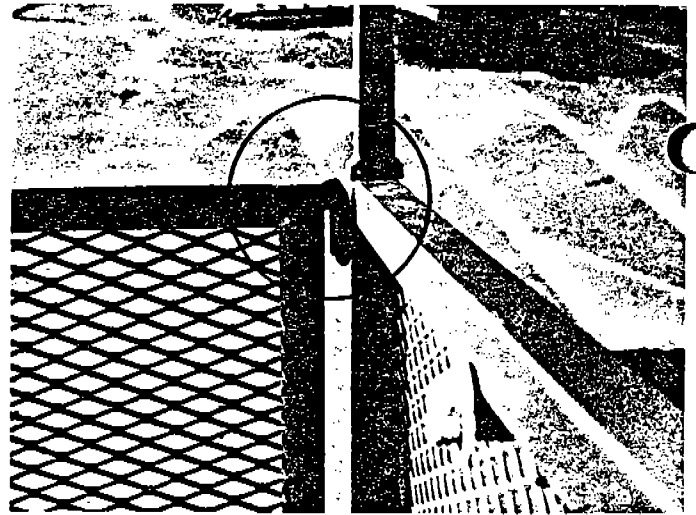

Fig. 17
- (1) The small side section is placed on the winch side.
- (2) Insert the fence legs into the sockets along the edge of the platform floor.
- e. Hook the front section into the side sections. (Fig. 17)